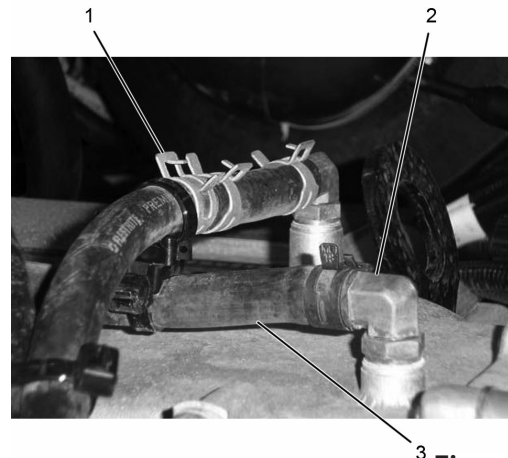

Figure 12
18. Remove two spring clamps (Figure 12, Item 1) from EGR cooler air bleed hoses (Figure 12, Item 3), and remove EGR cooler air bleed hoses from EGR cooler air bleed fittings (Figure 12, Item 2).